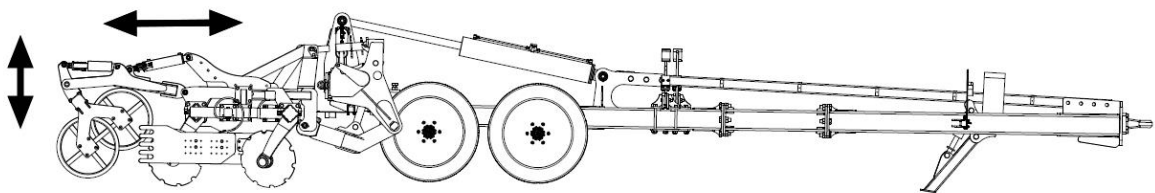

Figure 37 Adjusting the height and angle of attack of the operating rollers.
5. Once the machine has been unfolded on the chassis, the alignment of the working rollers with respect to the machine must be carried out using hydraulic actuators. The entire process is carried out using hydraulic actuators that determine the height of the rollers and their angle of attack relative to the ground, and turnbuckles fitted to the machine's wing drawbars (fig. 37).